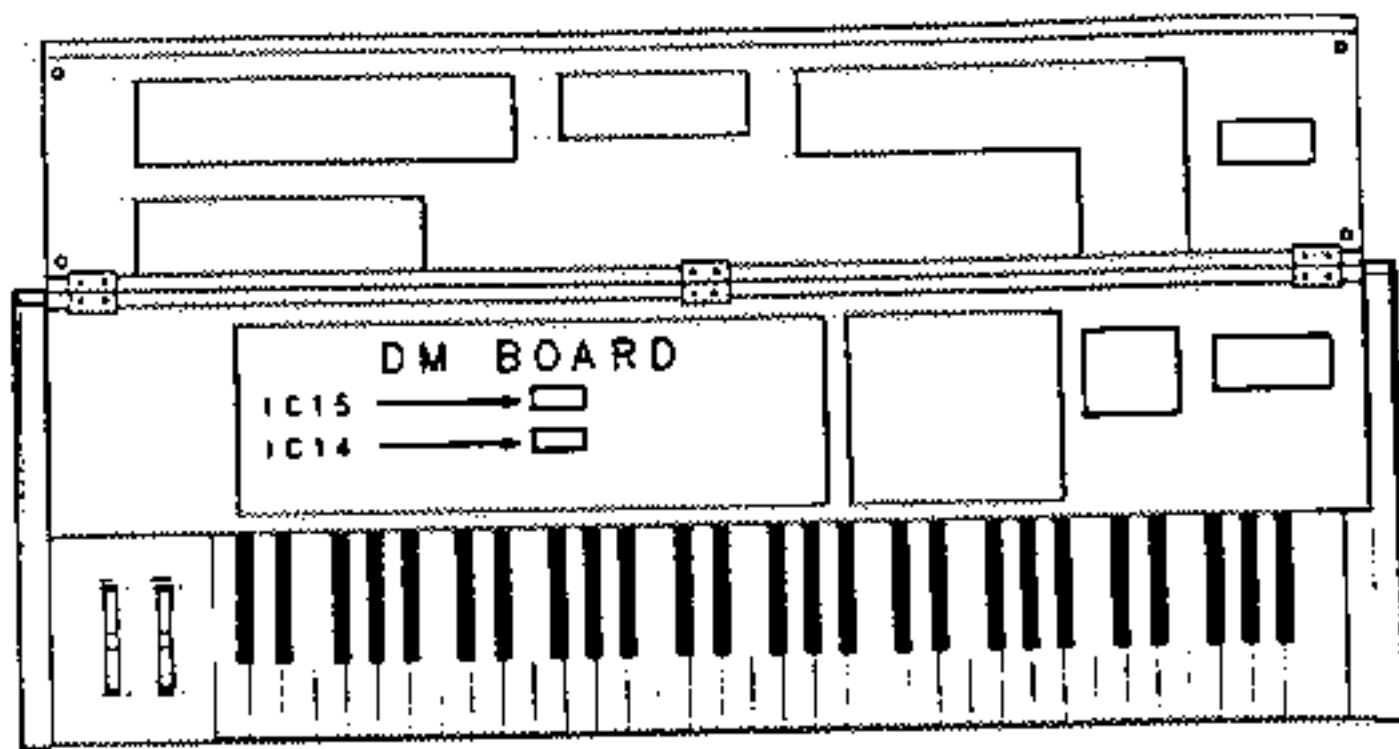

FIGURE 3
- (3) Carefully lift-up the edge of the DX7's front control panel, closest to the keyboard and open it all the way until it is resting against the back edge of the DX7 case as shown in Figure 3 on the next page.
- (4) Locate IC14, the ROM IC. IC14 is located near the center of the Main Circuit board (the DM board), also shown in FIGURE 3. At this point you can verify whether or not your unit requires further modification before installing the SPECIAL EDITION ROM. Remember, NO IC15, then NO modification is necessary. If IC15 is present then your DX7 needs modification before proceeding and you should refer to APPENDIX A on Page 29. After completion of the modification proceed with Step 5. If NO modification is required then go to Step 5.